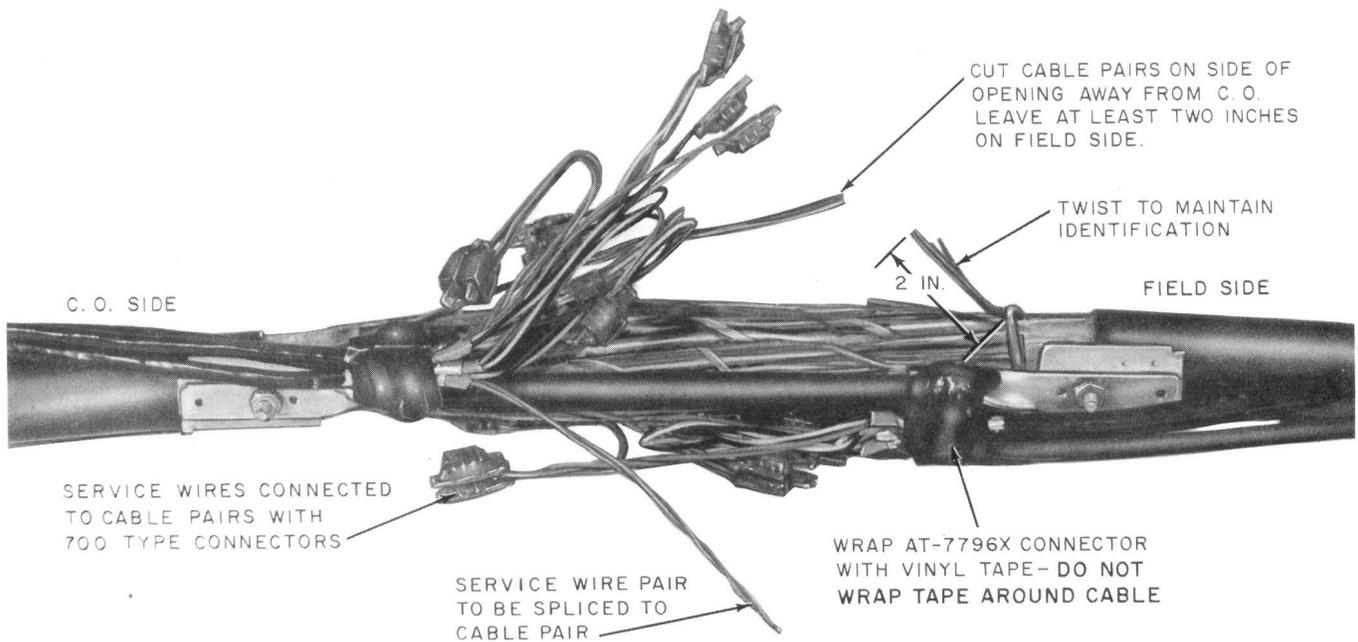

Fig. 9—Splicing Service Wires to Cable Pairs
3.07 ▶ Wrap the AT-7796X connector with vinyl tape (Fig. 9). **Do not wrap vinyl tape around cable during this operation.**▶
3.08 When the engineering work print calls for cutting the cable pair dead ahead, cut the cable pair to be spliced on the side of opening away from CO (Fig. 9), leaving at least 2 inches of conductor on the field side. Twist the ring and tip conductor together to maintain identification. Splice the service wire to the cable pairs using 700-type connectors as outlined in Section 632-205-215.